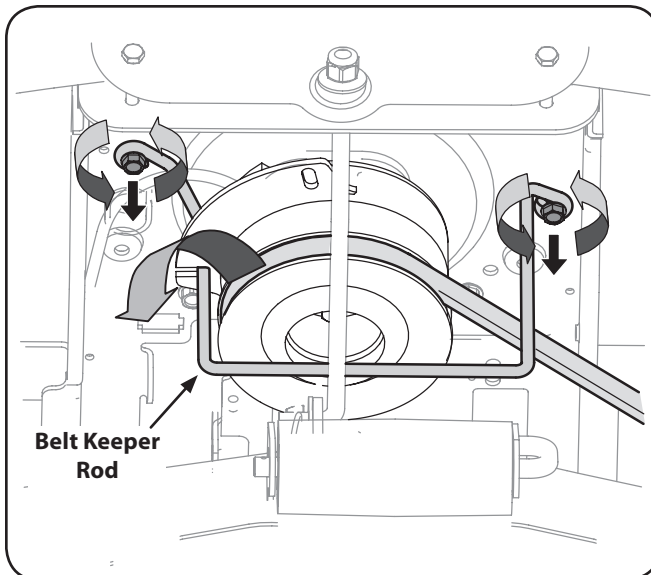

Figure 7-1
3. Locate the PTO clutch under the front of your tractor. See Figure 7-1.
4. Remove the belt guard and belt as follows Refer to Figure 7-1:
10. Reinstall the belt guard in the notch of the PTO clutch. See Figure 7-1.